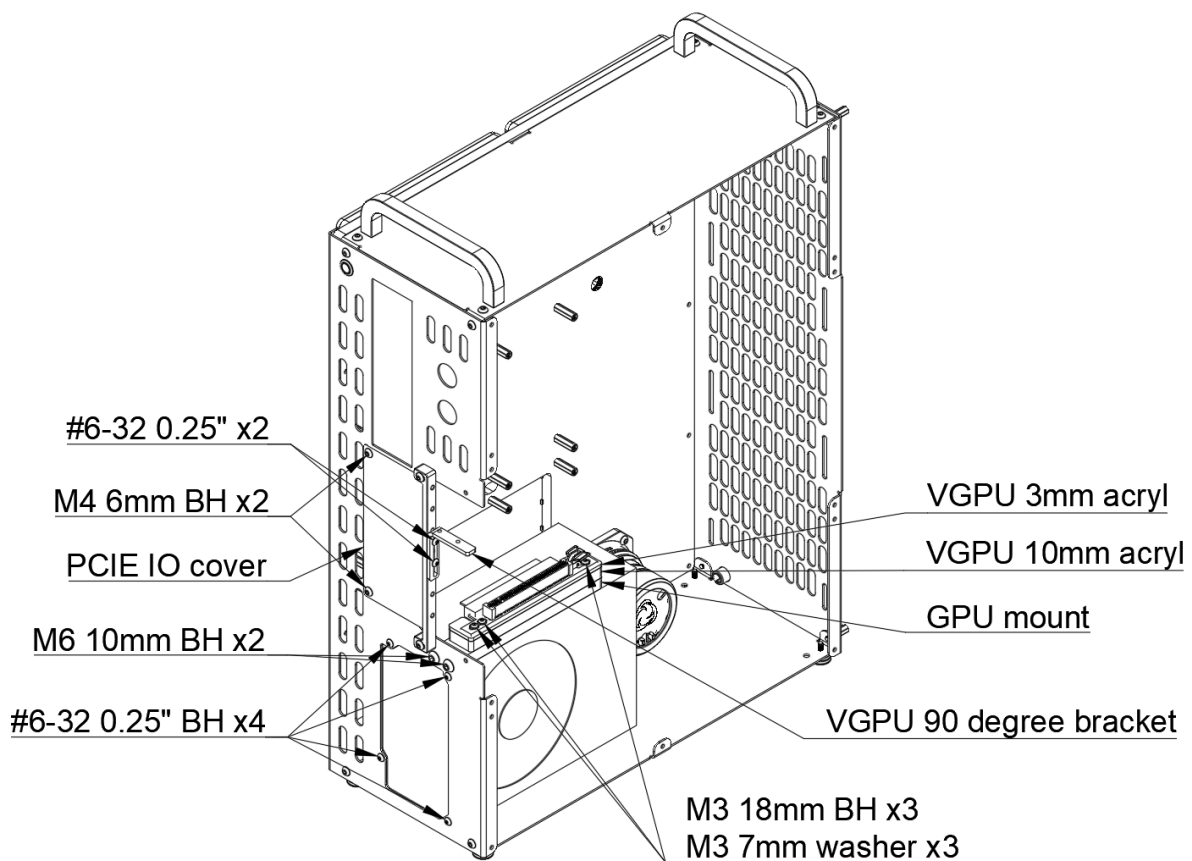

Figure 7B
- **Step 7B (Vertical GPU):** Install the VGPU 90° bracket to the PCIe Mount using #6-32 0.25" BH x2 and then the PCIe IO cover using M4 6mm BH x2 according to *Figure 7B*.
- **Step 7C (Vertical GPU):** Install the VGPU acryl 3mm black and 10mm clear mount with the PCIe riser cable using M3 18mm BH x3 with M3 7mm washer x3 to the GPU mount according to *Figure 7B*.
- **Step 7D (Vertical GPU):** Install the VGPU 90° bracket to the PCIe Mount using #6-32 0.25" BH x2 and then the PCIe IO cover using M4 6mm BH x2 according to *Figure 7B*.